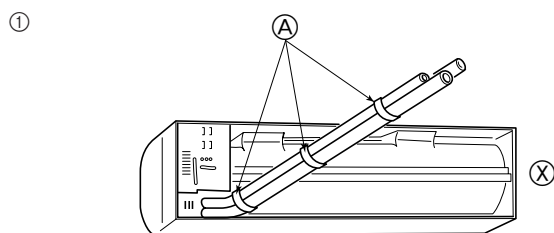
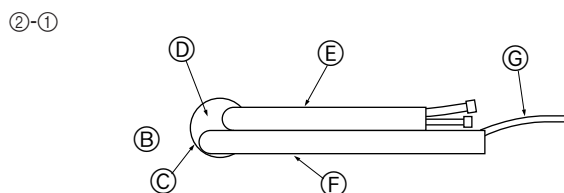

Fig. 3-4
Fig. 3-5
- ① Fasten a thread to the hole
- ② The level can be easily obtained by hanging a weight from the string and aligning the string with the mark.
① Rear, right and lower piping (Fig. 3-4)
② Left and left rear piping
②-① For left rear piping, pull the pipes out the hole to determine their correct length, then bend them. The indoor unit should hang on the wall mounting fixture. (Fig. 3-5)